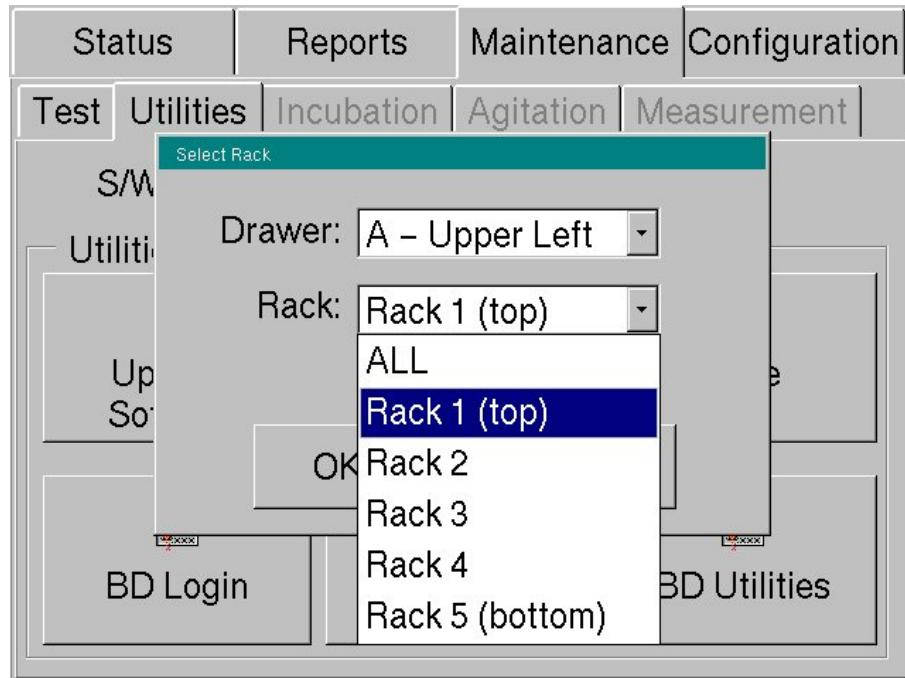

Figure 13
8. Select the appropriate rack replaced from the Change Rack menu (**Figure 13**).